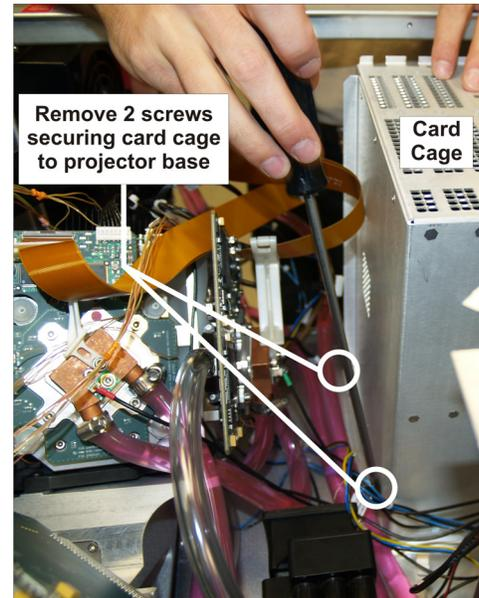

FIGURE 1-20 REMOVE CARD CAGE
6. Remove 2 screws securing the card cage retaining bracket to the base of the projector. (Figure 1-20)
4. Remove 2, #2 Phillips screws securing the card cage to the base. The screws are located on the side closest to the light engine. (Figure 1-20)